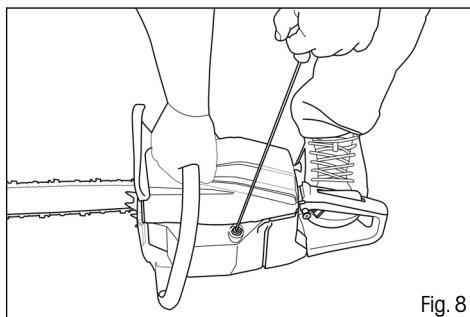

Fig. 8
3. Place the chain saw flat on the ground so that it is stable and pull on the handle of the starting cord until the engine rotates (the engine will show signs of attempting to start) (Fig. 8).
- Pull on the handle of the starting cord until the engine starts up (Fig. 8). DO NOT USE THE CHOKE!